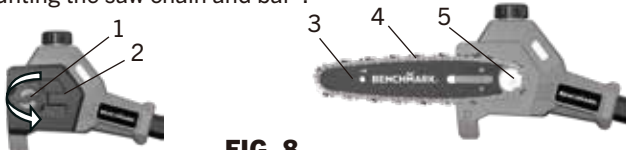

FIG. 8
3. Turn the locking and chain tensioning knob (1) counter-clockwise to remove sprocket cover (2) (Fig. 8).
4. Remove the guide bar (3) and saw chain (4). To remove the guide bar (3) raise it to an angle of approx. 45 degrees. This will make it easier to take the saw chain (4) off the sprocket (5) (FIG.8).